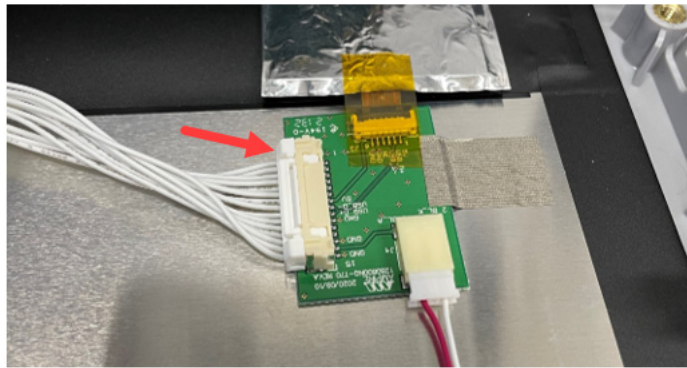

Figure 5-13. Disconnecting Keypad Cable Connector
10. Carefully tilt the Main PCB/SPA PCB assembly to remove the keypad cable connector by slightly pressing it at the ends and disconnecting it from the LCD top case assembly. See Figure 5-13.